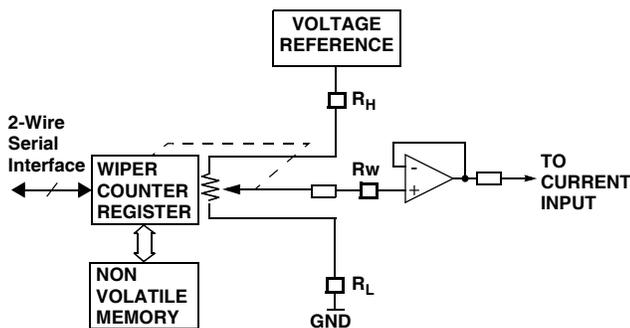

FIGURE 9. BLOCK DIAGRAM OF DCP WITH BUFFER
In the above example two potentiometers are used in series. Unlike fixed resistors, only select resistance values are available for XDCPs. If the values available prove to be unworkable, the circuit in Figure 9 may be used. In this case, the XDCP is used in true potentiometer mode (voltage divider), with an analog voltage buffer and a fixed resistor. In our design example using the SY88922 however, this arrangement would reduce the effect of the temperature compensation built into the reference voltage.
5. Honeywell Optoelectronics Application Sheet, "Modulating VCSELS", Jim Tatum and Jim Guenter, figure 9